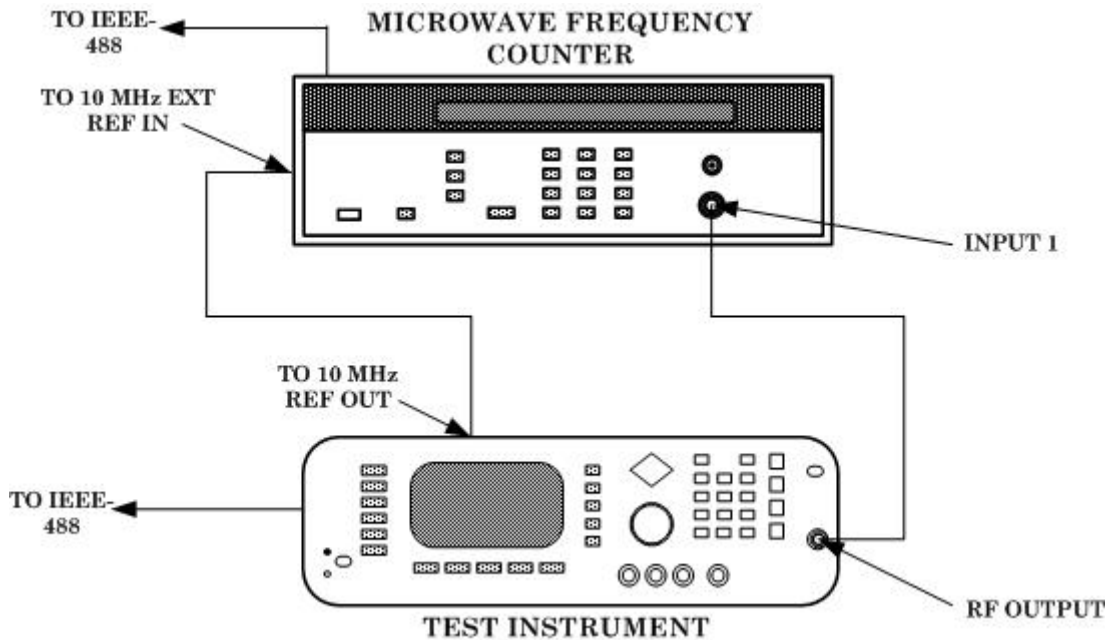

Figure 3. Frequency accuracy hook-up.
- (1) Connect equipment as indicated in figure 3.